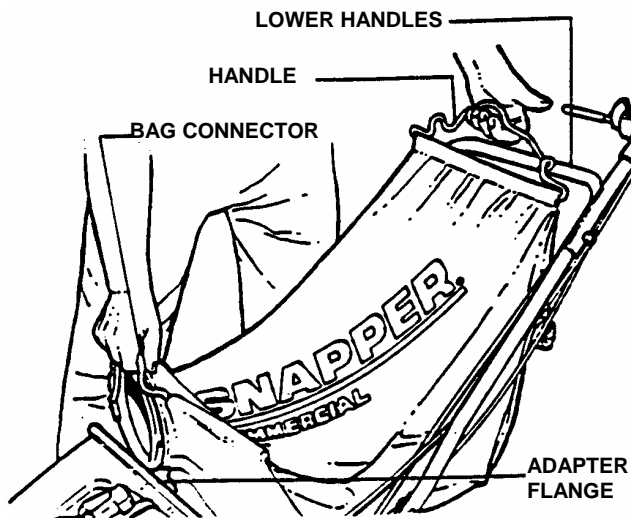
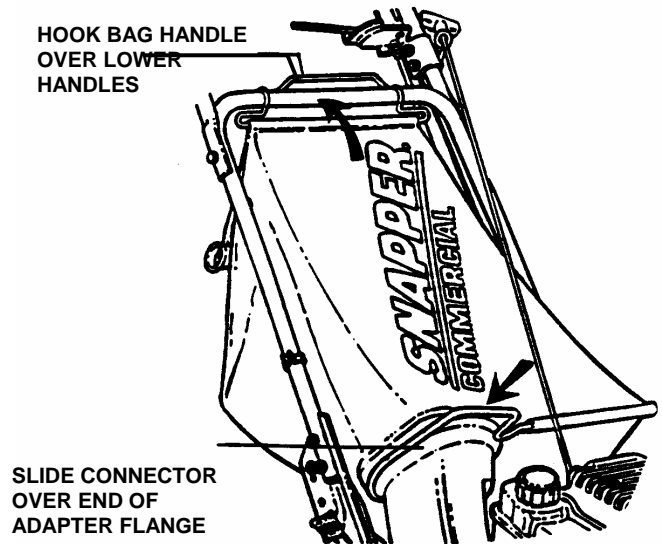

FIGURE 2.15
FIGURE 2.16
1. Position grass bag between handles. See Figure 2.15. Install grass catcher by sliding connector over flange of adapter. Attach grass bag hooks over middle handle cross bar. See Figure 2.16.
1. Grasp bag connector and bag handle as shown. See Figure 2.15.